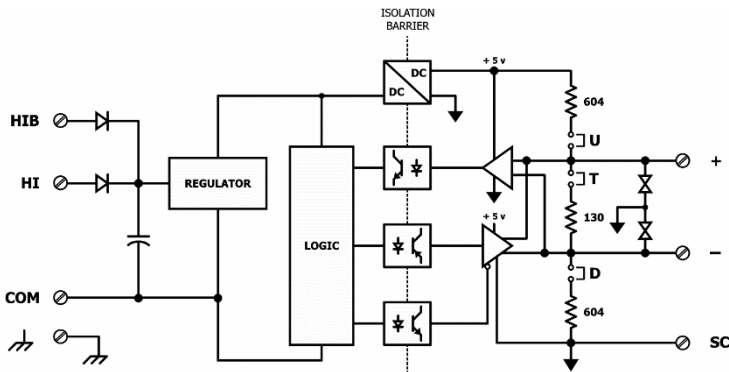

Figure 11 — Isolated EIA-485 Transceiver Circuitry
In *Figure 11* a simplified schematic of the isolated EIA-485 transceiver is shown. Notice that the transceiver common (SC) is electrically isolated from the router power supply common (COM) through the use of opto-isolators and an isolated DC-DC converter. An isolated EIA-485 transceiver offers less chance of damage to the transceiver from high common-mode voltages, but there is still a risk. Surge suppression is applied between the two differential inputs and between each input and ground. Since the transceiver is electrically isolated, the transceiver circuit common must be brought out for connection to the other devices on the MS/TP network. This is accomplished by pin SC. The differential pair is labelled + and – and corresponds to the same designations in the BACnet MS/TP standard. This requires a three-wire connection to the MS/TP network. Connecting other isolated MS/TP devices is no problem since each device requires a 3-wire connection. Just make corresponding connections. For non-isolated MS/TP devices, usually only a 2-wire connection is provided. The third wire is the power supply common. In this situation, the SC connection *MUST* be made to the power supply common of the non-isolated device. Refer to the device vendor instructions for connecting such a device.